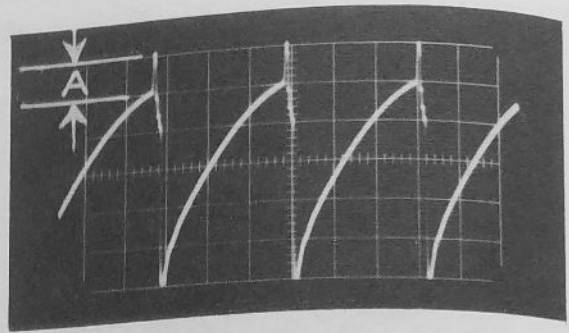

Figure 36. Output, 3V5, Pin 7, 37V P-P.
7. Adjust the HOR FREQ coil, 3L1 for lock-in as shown in Figure 36. (Both 3L1 and 3L2 were sealed with glyptol in the final factory tests, so that it may be difficult to adjust these coils.) Disregard any spurious signal that might come from vertical serrations.
9. Return the oscilloscope probe to pin 7 of 3V5. Refer to Figure 36 and turn the HOR FREQ coil, 3L1, adjustment CW for maximum amplitude of "A". If the 3L1 adjustment is turned too far clockwise, loss of lock-in will occur. If this happens, turn it CCW for lock-in and then CW again for maximum amplitude of "A".